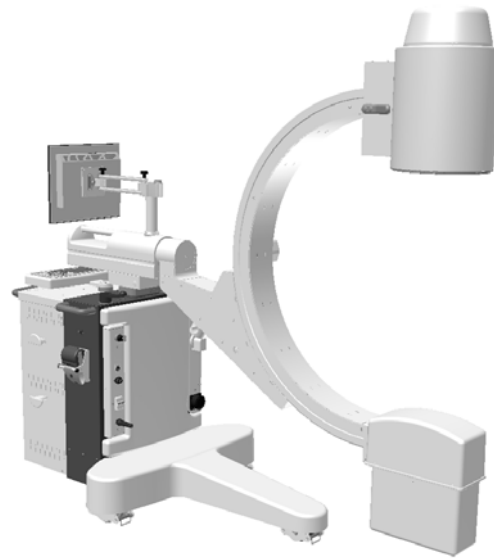

Fig. 2
- nr.1 orientable LCD monitor 17", directly on mobile stand for digital systems with CCD 0,5K x 0,5K (Fig. 2). *